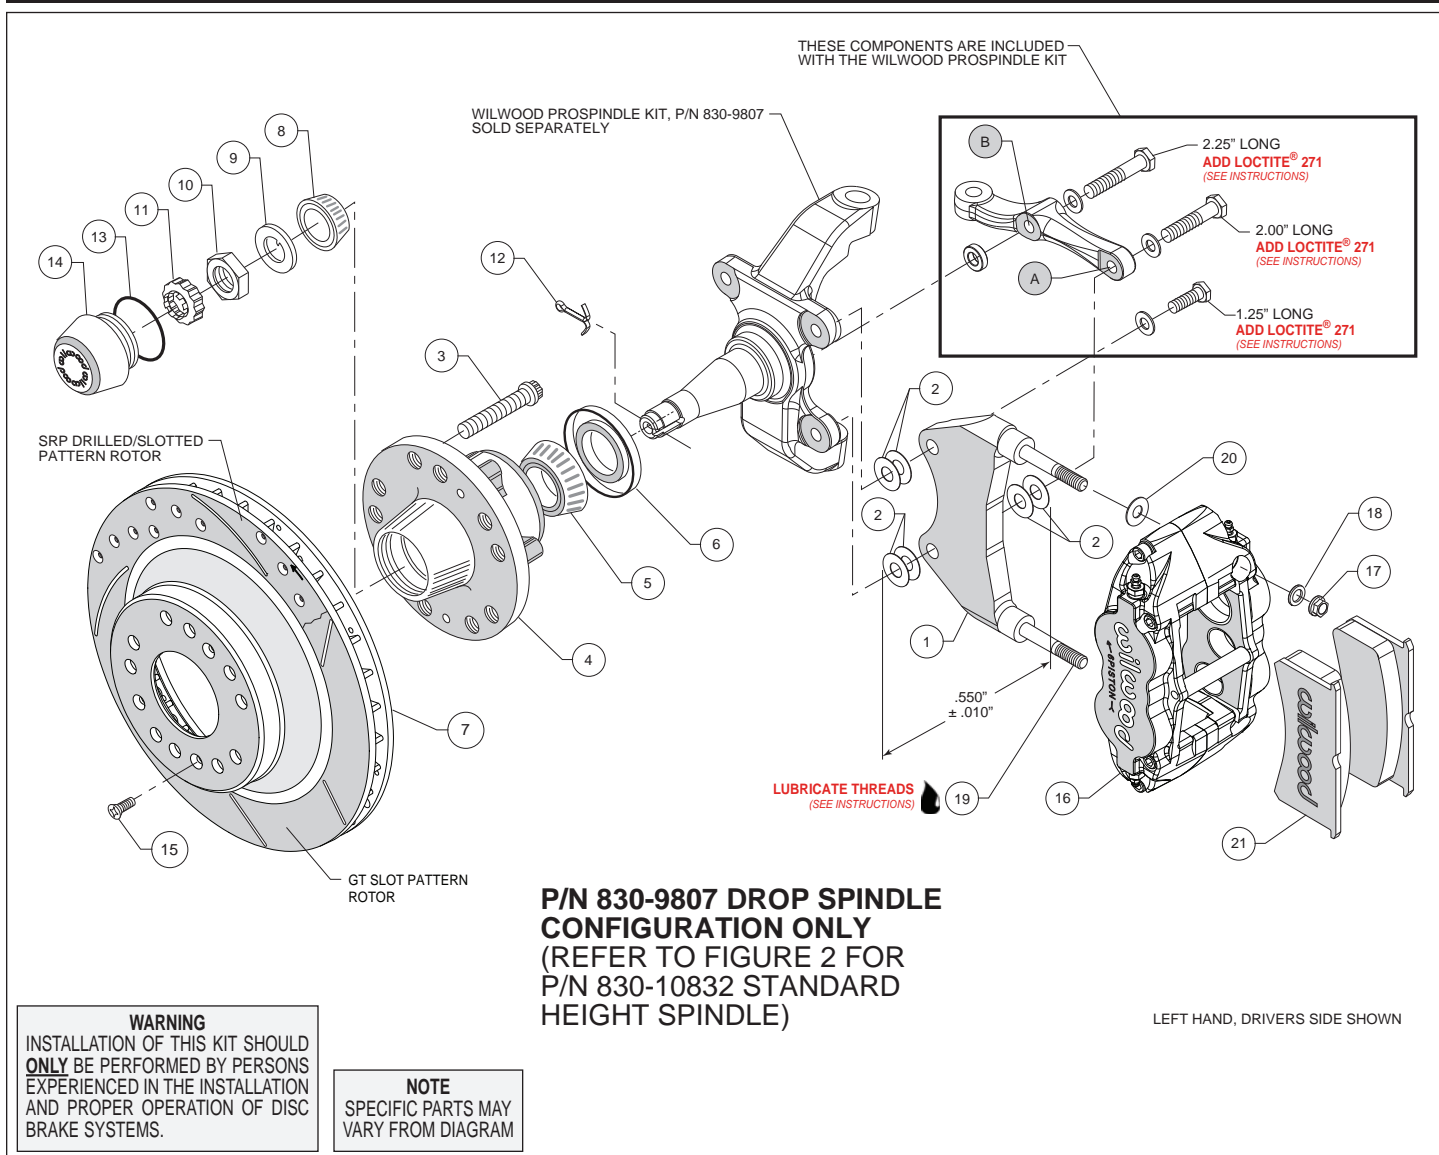

Figure 1. Installation Configuration For Drop Spindle, P/N 830-9807
**Assembly Instructions** (numbers in parenthesis refer to the parts list and Figures 1 or 2 on the preceding pages):
- NOTE:** Each Wilwood ProSpindle kit includes bolts, washers, and a spacer to mount the steering arm and caliper bracket. The various bolts are identified by length in the following instructions and in Figures 1 and 2.
**For 2" Drop ProSpindle (P/N 830-9807):** The caliper bracket assembly (1) should initially be installed with clean, dry threads on the mounting bolts.
- Orient the bracket as shown in Figure 1 and Photo 1. Install at top spindle hole using 1.25" long bolt and .06" thick washer (from ProSpindle kit), and two .016" thick shims (2) between the bracket and spindle, Figure 1.
- Orient the steering arm, and identify the hole marked 'A', as shown in Figure 1. Install at bottom spindle hole using 2.00" long bolt and .06" thick washer (from ProSpindle kit), two .016" thick shims (2) between the bracket and steering arm, and another two .016" thick shims (2) between the bracket and spindle, Figure 1. The bracket is located between the steering arm and spindle. **NOTE:** The bracket and shim washers must add up to a total thickness of .550"  $\pm$  .010", Figure 1.
- Finish attaching the steering arm through the hole marked 'B', as shown in Figure 1. Install using 2.25" long bolt, .06" thick washer, and .25" thick spacer (all from ProSpindle kit), Figure 1.
- Screw dust cap (14) into hub (4), Photo 6. Friction created by the o-ring (13) on the dust cap keeps it from unscrewing.
- Slide the hat/rotor (7) onto the hub (4) taking care to align the small countersunk holes in the hat with the small threaded holes in the hub. **NOTE:** The hat must fit flush against the hub face or excessive rotor run out may result. Install three flat head screws (15) through the small holes in the hat (7), Photo 6, and torque to 85 in-lb.
- NOTE:** This kit contains distinct right and left hand calipers that must be mounted in a specific direction, as described below. Lubricate the caliper mounting studs (19) with lightweight oil. Initially place one .035" thick shim (20) on each stud as shown in Figure 1 or 2, and Photo 7. Mount the caliper (16) onto the bracket (1) using lock nuts (17) and washers (18), Figure 1 or 2. Ensure that the caliper is mounted so that the largest pistons are at the rotor exit end of the caliper, in relation to the direction of rotor rotation. Temporarily tighten the lock nuts and view the rotor through the top opening of the caliper. The rotor should be centered in the caliper, Photo 8. If not, proceed as follows:
- Adjust by adding or subtracting shims (2) between the bracket and the spindle. Always use the same amount of shims on each of the two bolts between bracket and spindle.
- For the lower bracket mount bolt, if a shim was added between the bracket and spindle, then a shim must be removed between the steering arm and bracket, such that the total thickness of bracket and shims remain equal to  $.550 \pm .010$ ", Figure 1.